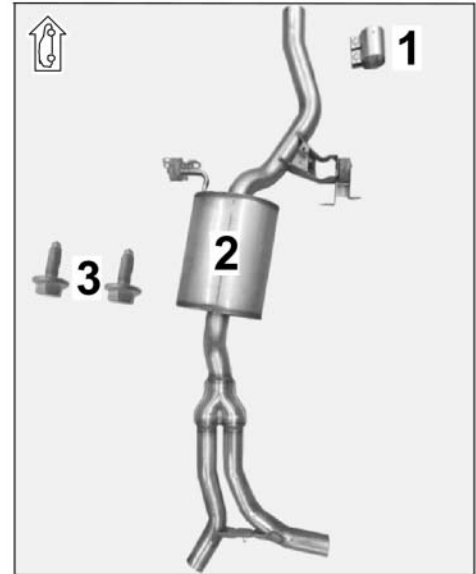

Figure 48
5.2 Install new center silencer ⇒ *Figure 48*